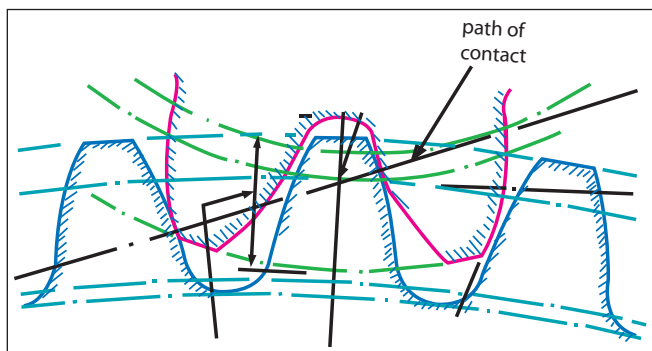

Figure 3—Transfer of contact at points on the path (line) of contact.
- The single-pitch deviation value reported by this measurement is directly, and even indirectly, essentially useless. What is generally needed from a tooth spacing measurement is an indication of how well the gear will transfer contact and load as one pair of mating teeth are replaced by the next pair. A smooth transfer requires that the tooth spacing of the two gears be closely matched (Fig. 3). Otherwise, any mismatch can result in added dynamic loads and gear noise. However, this mismatch to be judged is along the line of action in a base tangent direction, and not along the tolerance or inspection circle, as specified in the AGMA standard. The single-pitch deviation in the standard provides no such line-of-action spacing measurement. For gears in which eccentricity is the dominant accuracy deviation, the value of the currently reported single-pitch deviation comes only from the magnitude of eccentricity and the total number of teeth in the gear. To receive the benefit of single-pitch deviation